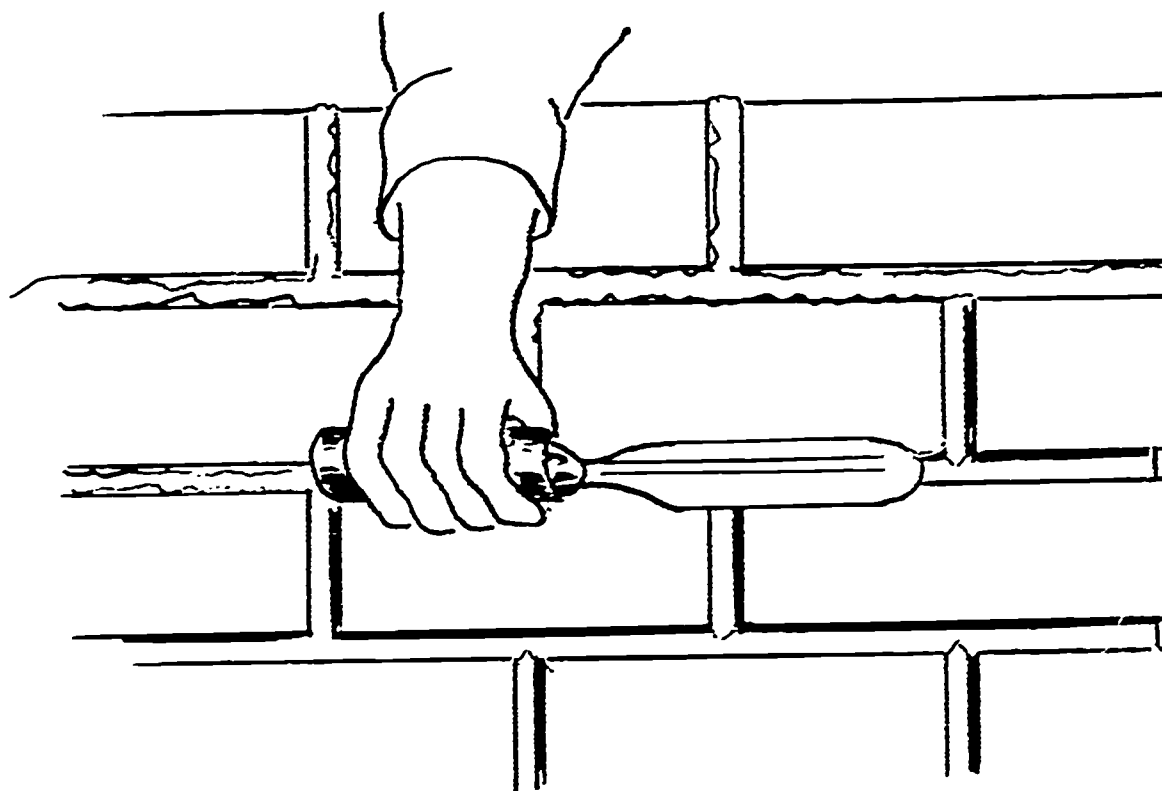

FIG. 513
8. "Joint" the courses before the mortar has set. See figure 513.